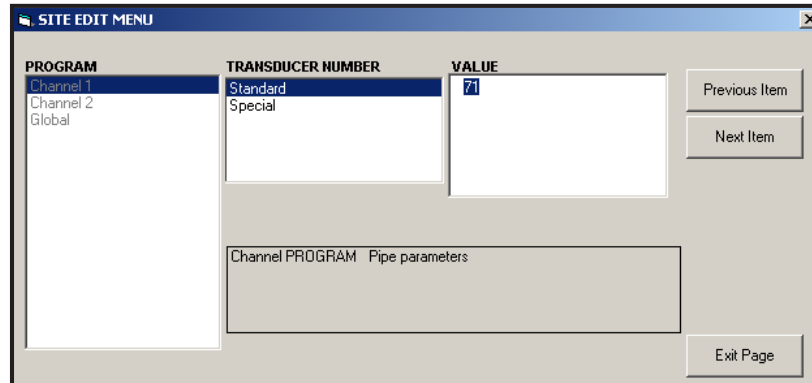

Figure 42: Pipe Parameters Option in the *Site Edit Menu*
- Highlight and double-click on the desired option in the center pane. *Figure 42 on page 92* shows the first entry (Transducer Number) in the *Pipe Parameters* option. The title above the center pane lists the current entry, while the center pane displays the available selections for that entry.